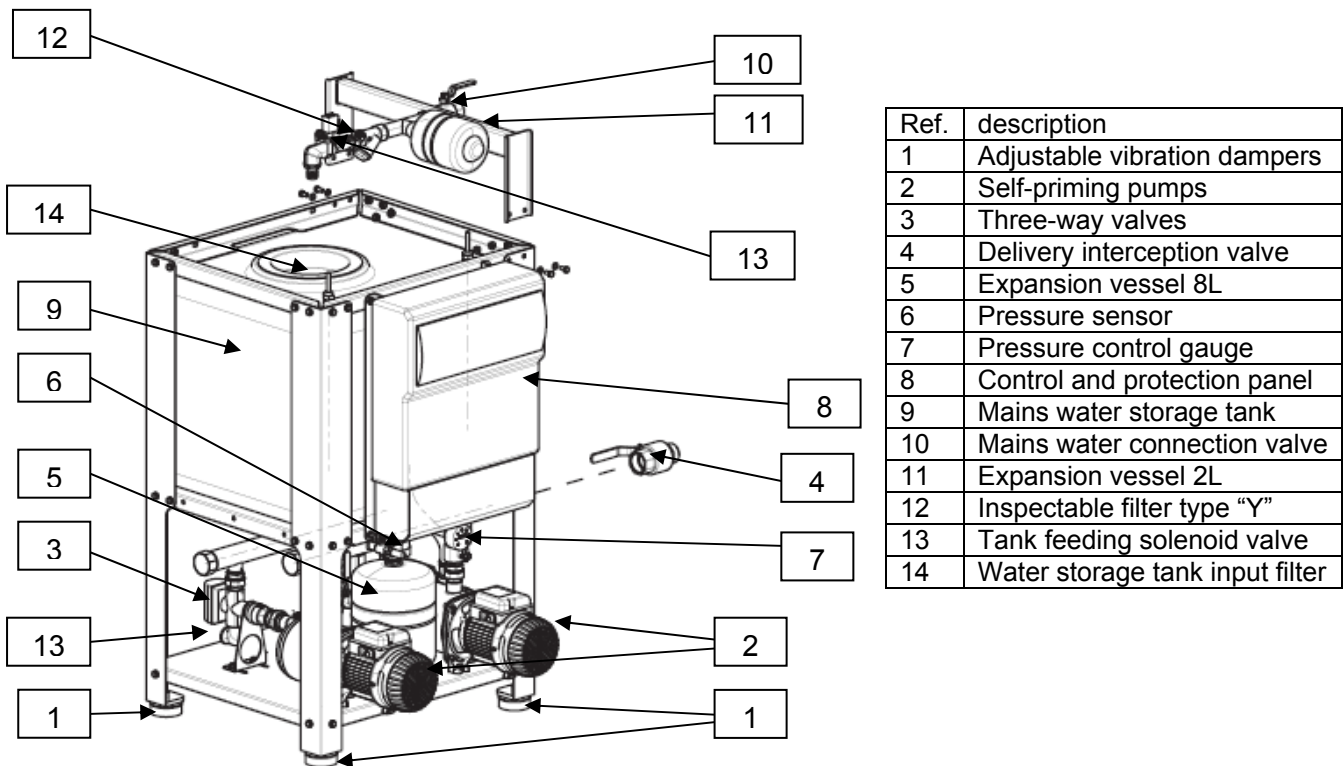

Fig.1
Place the AQUATWIN TOP in a well ventilated place, protected from unfavourable weather conditions, and with an environment temperature not higher than 40°C, on an even surface; if this is not possible, use the adjustable vibration-damping feet (ref.1 Fig.1).